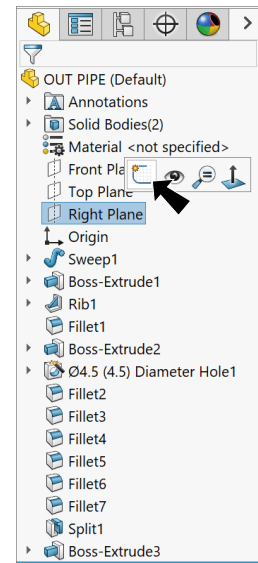

Fig. 72
Step 1. Click **Right Plane**  in the Feature Manager and click **Sketch**  on the context toolbar, **Fig. 72**.